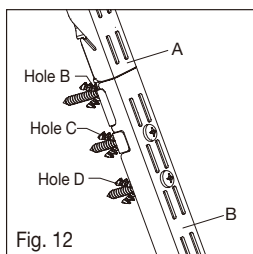

Fig. 12
- ☐ Put the lower vertical rail (B) as shown and secure it on the hole C and D with panhead screw (#12 x 2 in.) (see Fig. 12).